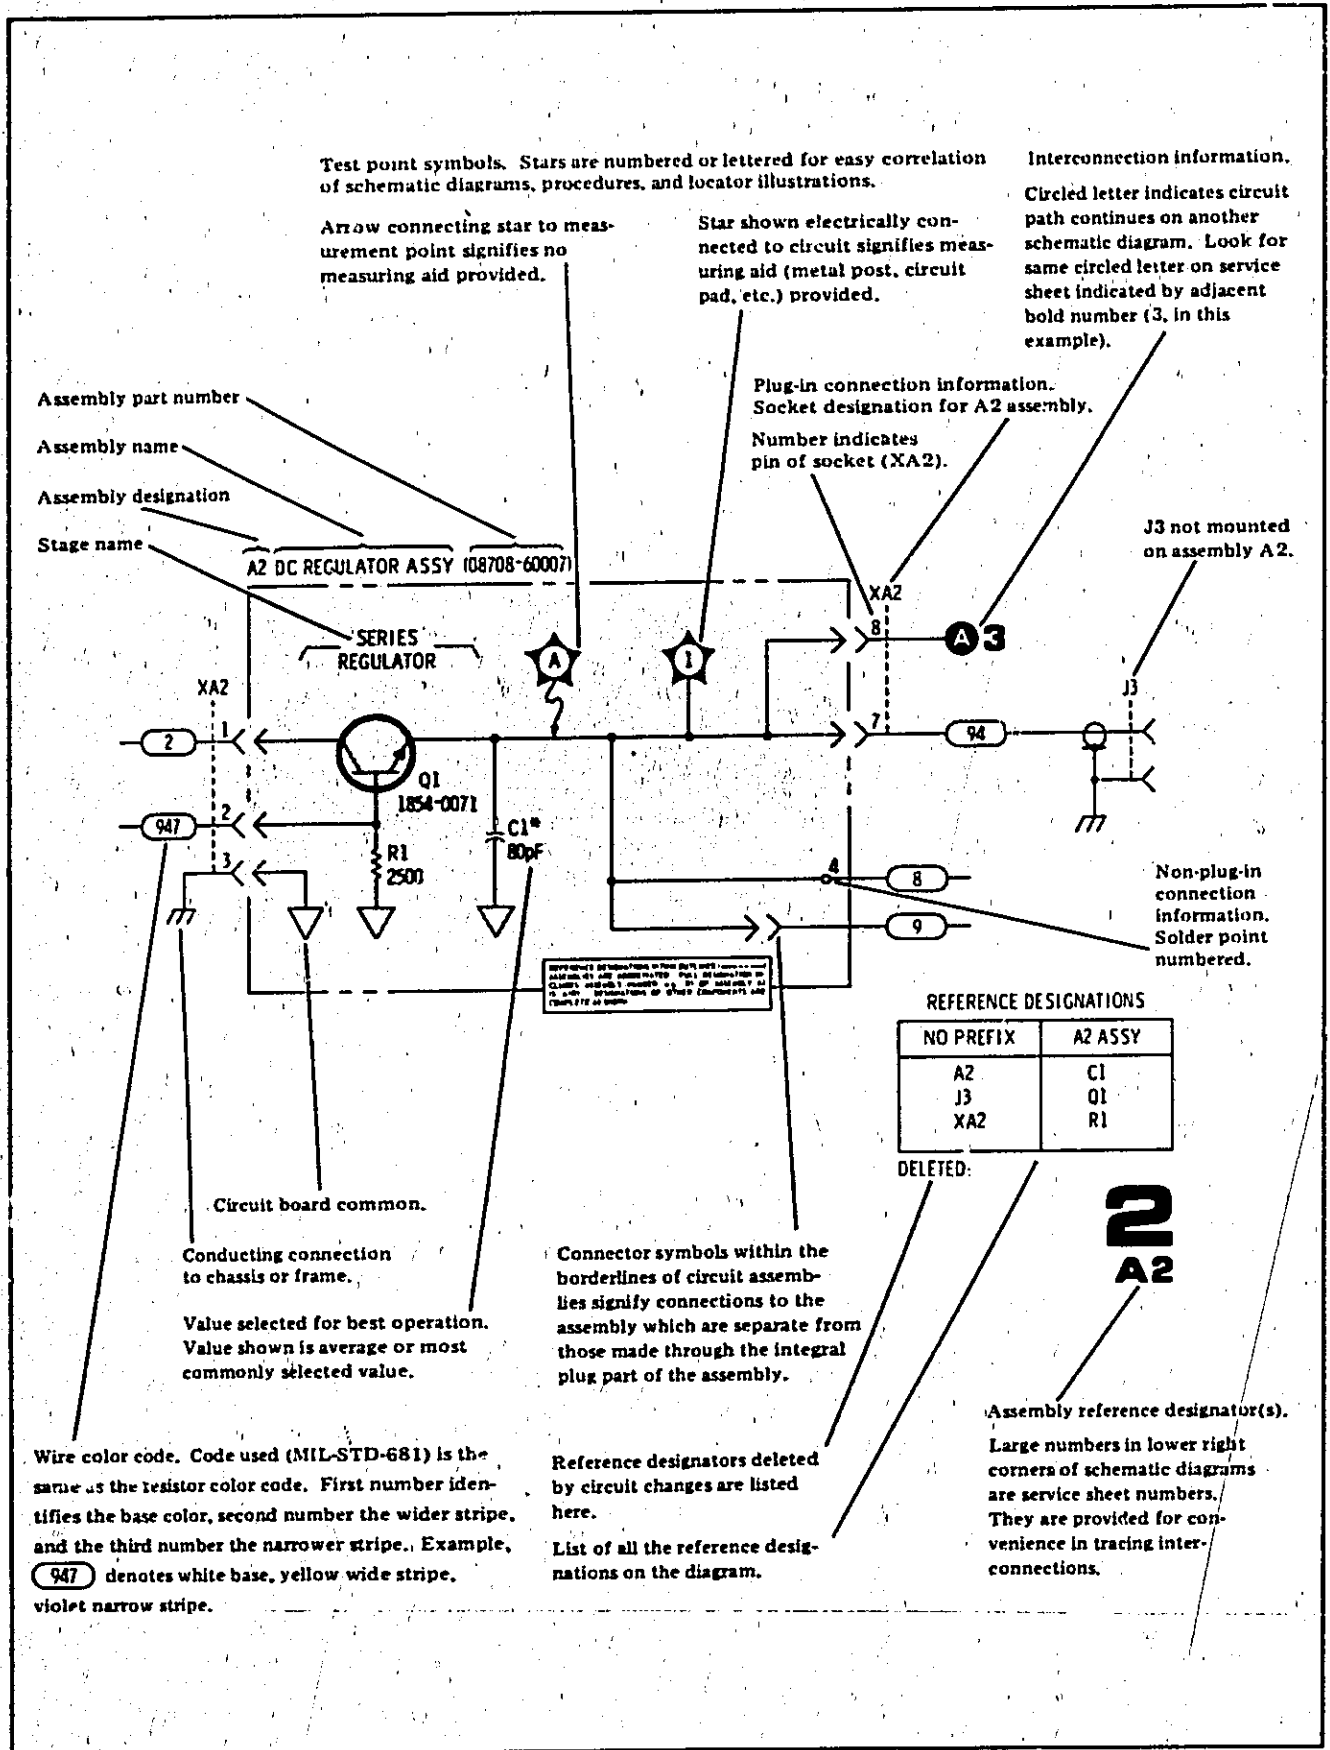

Figure 8-7. General Information on Schematic Diagrams
1. EACH PIN OF CONNECTOR XAS CONTACTS TWO PINS ON THE A5 BOARD, ONE ON EACH SIDE OF THE BOARD. THEREFORE, THE PIN ON A5 THAT IS CONNECTED TO THE BOARD CIRCUIT MAY BE ON EITHER SIDE OF THE BOARD. CONDITIONS FOR WAVEFORMS AND VOLTAGES ARE GIVEN IN FIGURE 8-7.